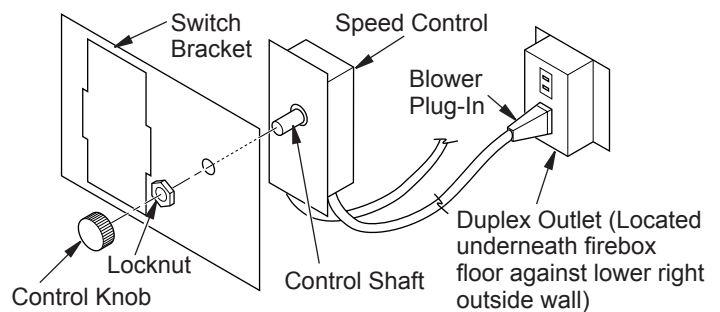

Figure 26 - Attaching Speed Control to Firebox
5. Mount speed control box to switch bracket by placing the plastic control shaft forward through the opening in the switch bracket (see Figure 26).
5. Mount the speed control box against the mounting plate provided in the lower fireplace cavity by placing the plastic control shaft forward through the round hole (see Figure 26, page 15).
6. While supporting speed control, secure control shaft with lock nut by pushing and turning lock nut with pliers clockwise until it is tight against mounting plate. Place control knob provided on shaft (see Figure 26, page 15).